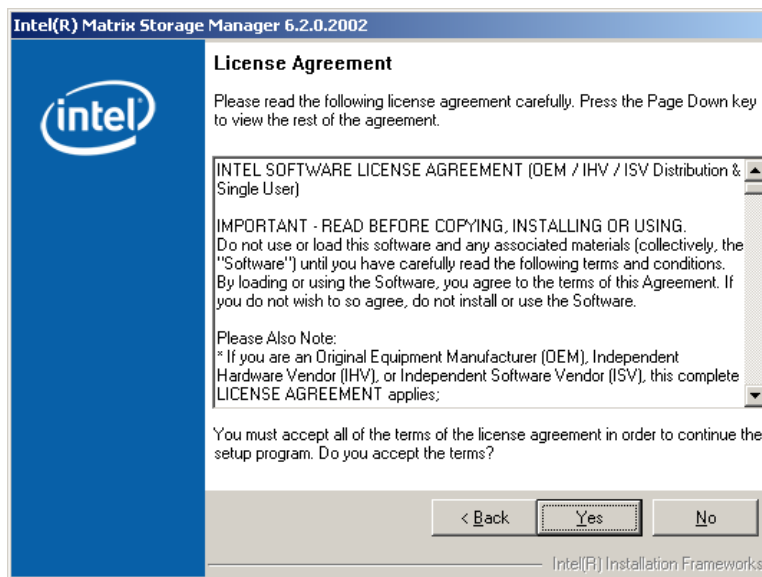

Figure 7-58: Matrix Storage Manager License Agreement
Step 9: Click **NEXT** and a license agreement appears (**Figure 7-58**).